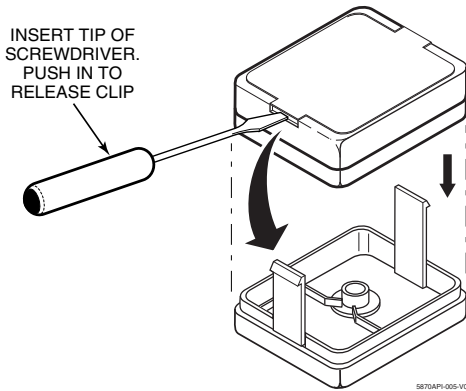

Figure 1 – Replacing the 5870API Battery
2. Carefully remove the sensor's cover. (see Figure 1)